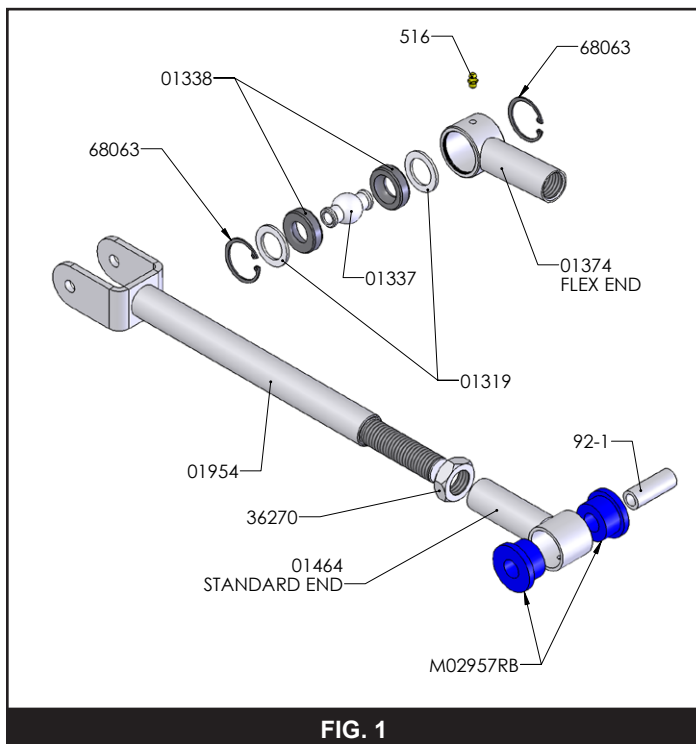

FIG. 1
5. Install replacement control arm (Fig 1, 2, or 3) with OE hardware. It may be necessary to raise or lower the axle to get the sleeves in the arm to line up with the OE mounting points. If installing optional arm with flex eye or adjustable end. The flex eye or adjustable end will go into the frame mount.